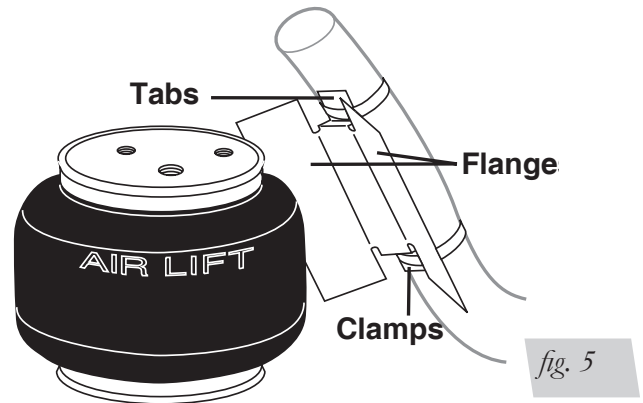

fig. 5
12. Installation of this kit requires an exhaust heat shield (Fig. 5). The shield is attached with the stainless steel clamps to the exhaust pipe, with the flanges bent inward. Shield may be trimmed or bent to attain component clearance. Bend tabs to provide 1/2" dead air space between exhaust pipes and heat shield and maximum clearance with air springs.